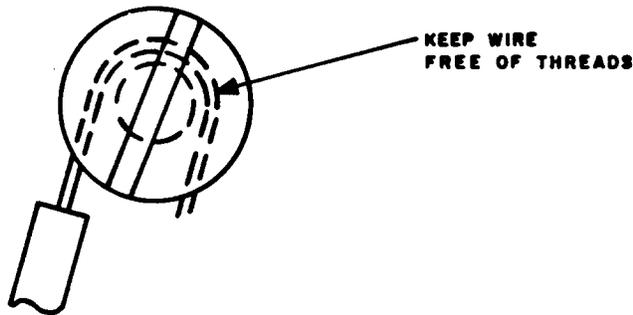

Fig. 11—Terminating Wire at Screw Terminals
7.01 To terminate conductor at a screw terminal, bend the wire clockwise in a hairpin loop around the screw. Push conductor away from the screw, especially finer gauge conductors, to prevent the wire from being caught in the threads and getting broken when the screw is tightened (Fig. 11).